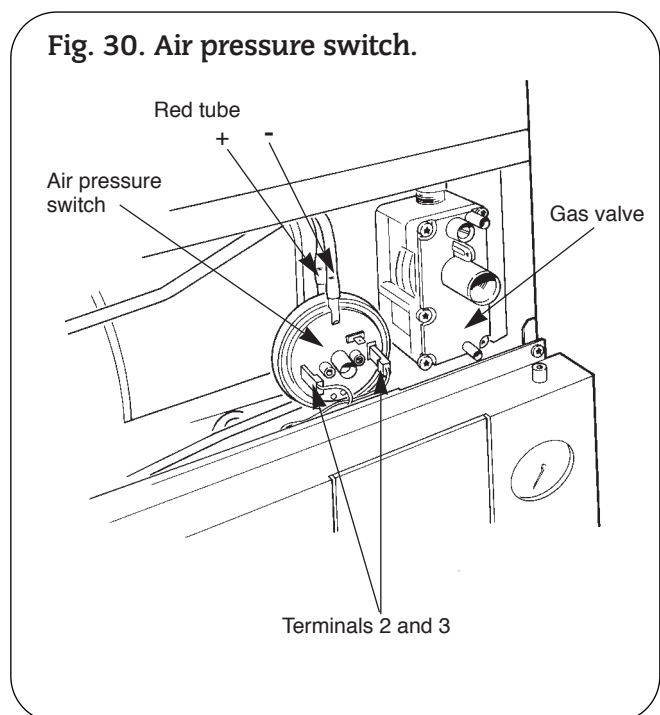

Fig. 30. Air pressure switch.
2. Air Flow Pressure Switch. See Fig. 30.